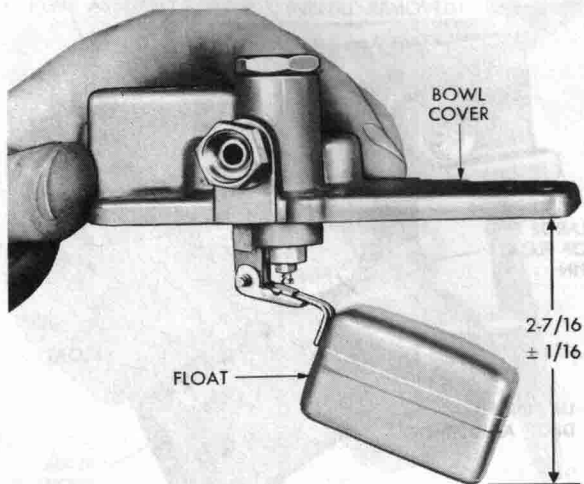

Fig. 56—Checking Float Drop with Bowl Cover Upright
(21) Check the float drop with cover upright (Fig. 56). Distance from the bottom of the float at free end to the bowl cover should be  $2\frac{7}{16}$ " + or -  $\frac{1}{16}$ ". Adjust by bending tab on float arm back of needle seat.